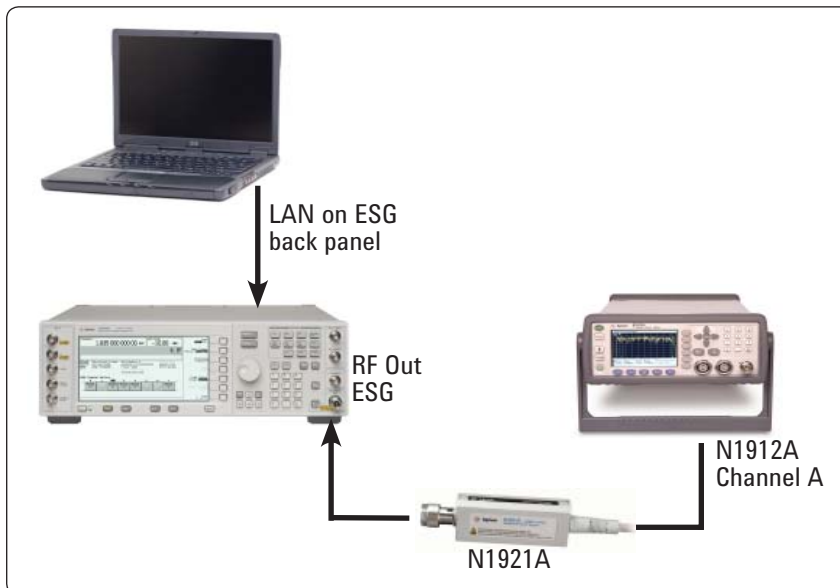

Figure 8 P-Series and ESG setup diagram
3. Connect the P-Series power meter and sensors as shown in Figure 8.